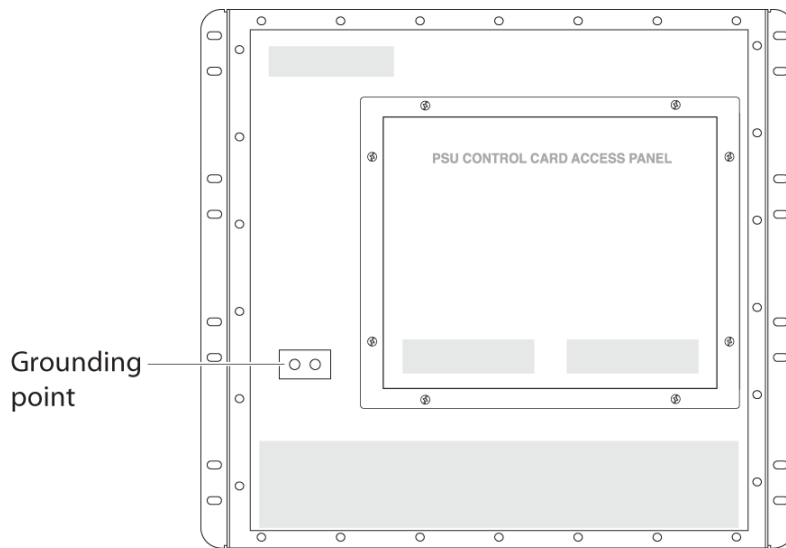
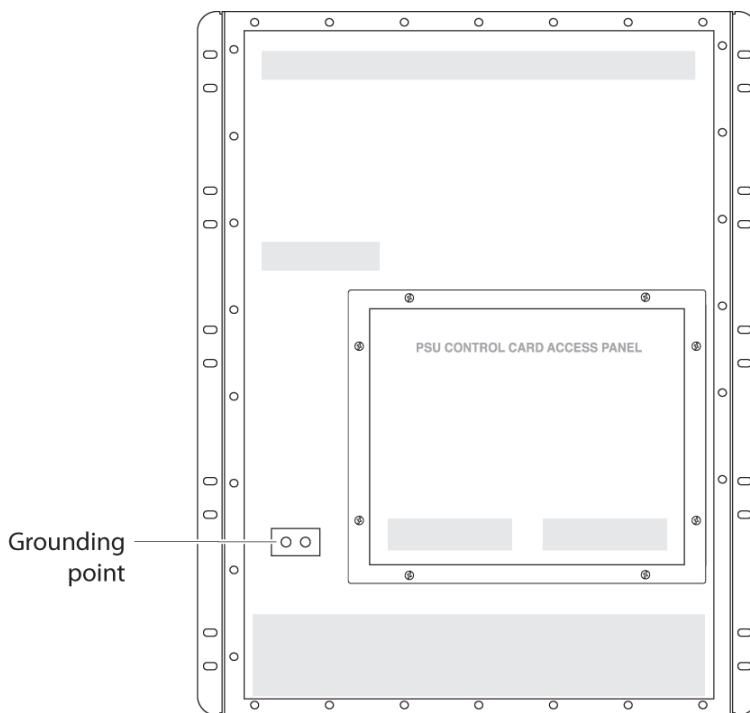

Figure 28. Back of XCM8806 Chassis
Figure 29. Back of XCM8810 Chassis
1. Locate the grounding point on the back of the chassis (**Figure 28** and **Figure 29**).